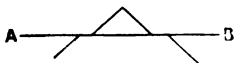

FIG. 16.
In (1) Fig. 16, the halving is correct; in (2) Fig. 16, the halving is too high; in (3) Fig. 16, the halving is too low.